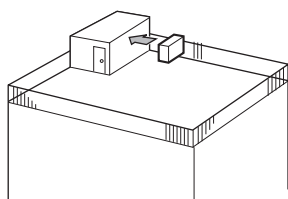

Fig. 2-21
- ① Face the air outlet towards the nearest available wall about 35 cm away from the wall. (Fig. 2-21)